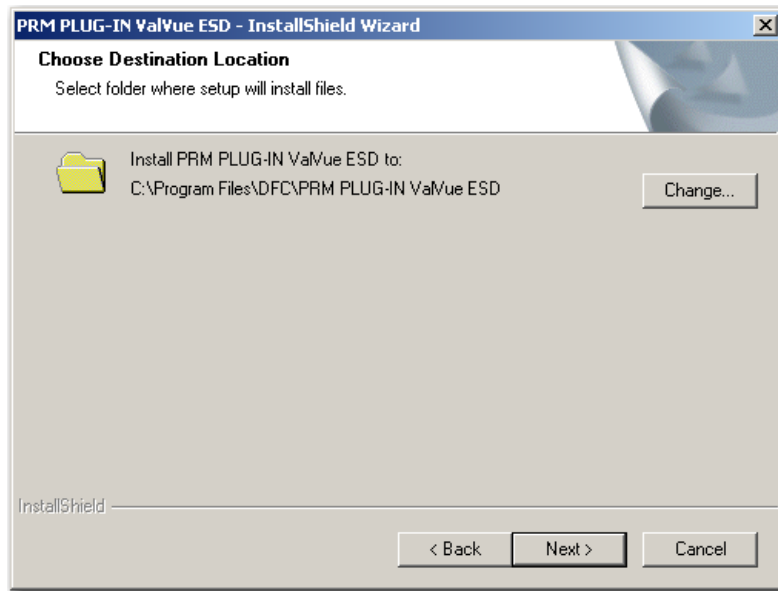

Figure 24 PRM Plug-In Destination Folder
6. Click the accept radio button, click **Next** and the *Choose Destination Location* screen appears (Figure 24).